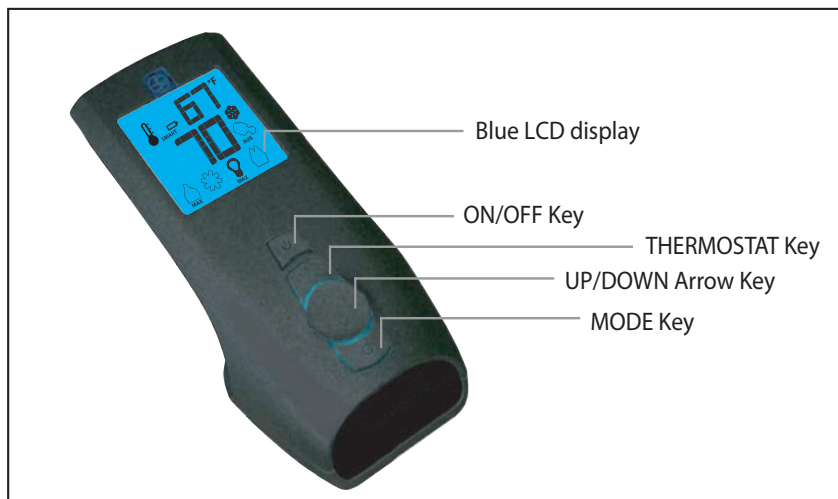
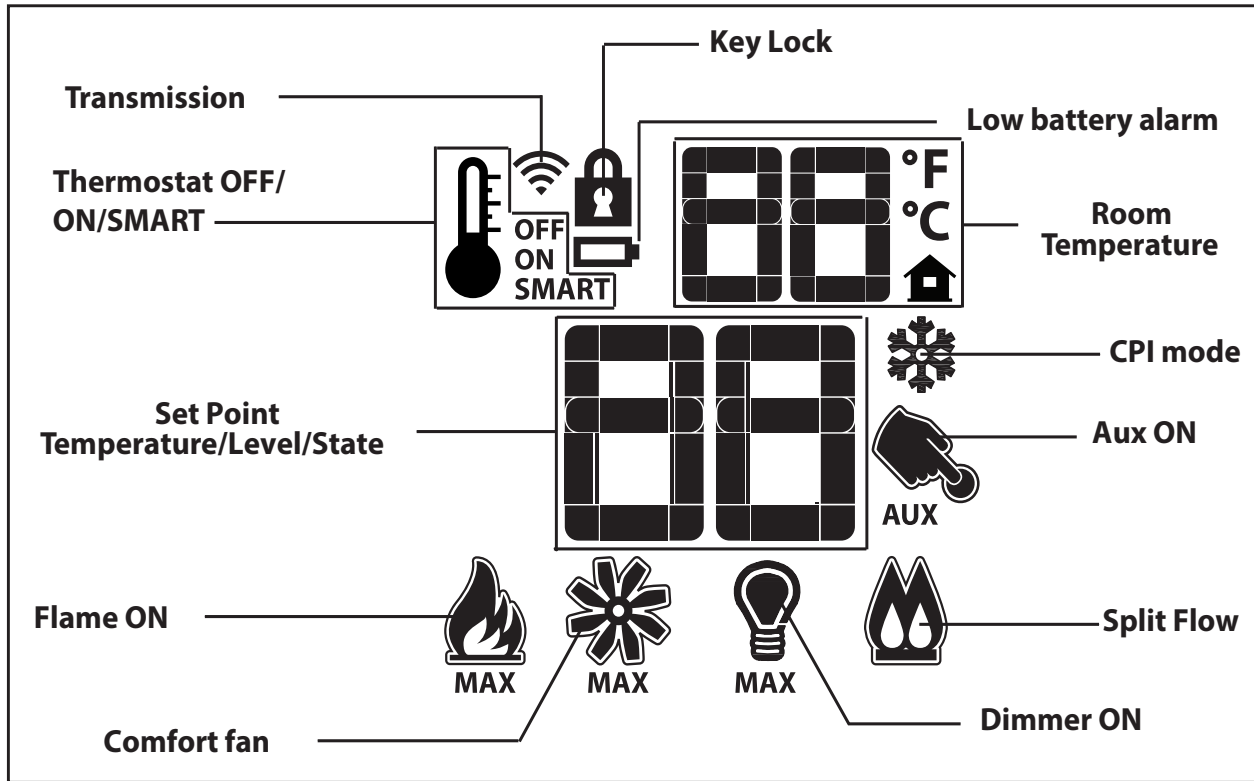
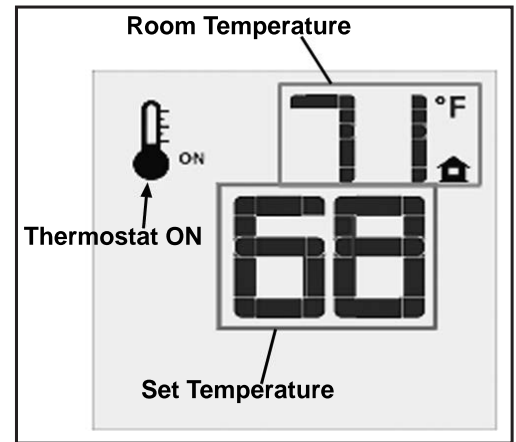
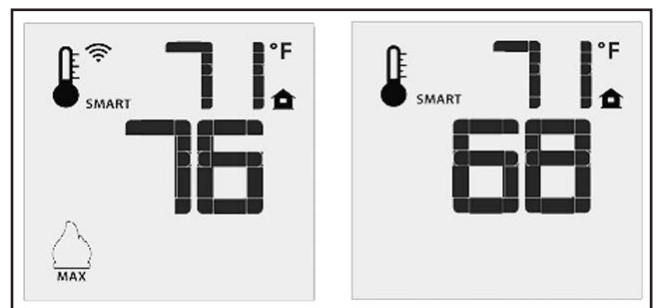

Figure 4: Proflame 2 Transmitter.
Figure 5: Proflame 2 Transmitter LCD Screen.
Figure 9: Remote Control Displays Set Temperature.
Figure 10: Remote Control's Smart Flame Function.
The Proflame 2 Transmitter is a black remote control with a blue backlit lcd display. It uses a streamline design with a simple button layout and informative lcd readout (Figure 5). The Transmitter is powered by three (3) AAA type batteries. A Mode Key is provided to Index between the features and a Thermostat Key is used to turn on/off or index through Thermostat functions (Figure 4 & Figure 5)
Press the ON/OFF Key on the Transmitter. The Transmitter LCD display will only show the room temperature and Icon (see Figure 9). A single “beep” from the IFC confirms reception of the command and both the pilot light (if the unit is not set to continuous pilot) and main burner will turn off.
The Remote Control can operate as a room thermostat. The thermostat can be set to a desired temperature to control the comfort level in a room. To activate this function, press the Thermostat Key (see Figure 4). The LCD display on the Transmitter will change to show that the room thermostat is “ON” and the set temperature is now displayed (see Figure 9). To adjust the set temperature, press the Up or Down Arrow Keys until the desired set temperature is displayed on the LCD screen of the Transmitter.
The Smart Thermostat function adjusts the flame height in accordance to the difference between the set point temperature and the actual room temperatures. As the room temperature gets closer to the set point the Smart Function will modulate the flame down. To activate this function, press the Thermostat Key (Figure 4) until the word “SMART” appears to the right of the temperature bulb graphic (Figure 10). To adjust the set temperature, press the Up or Down Arrow Keys until the desired set temperature is displayed on the LCD screen of the Transmitter.